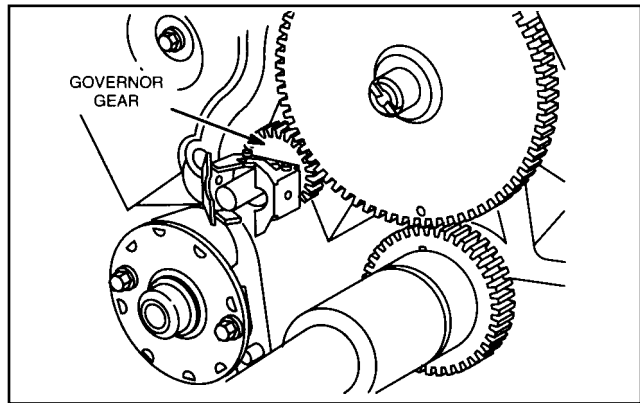

Fig. 8 - Remove Sump
3. Remove sump and discard gasket, Fig. 8.